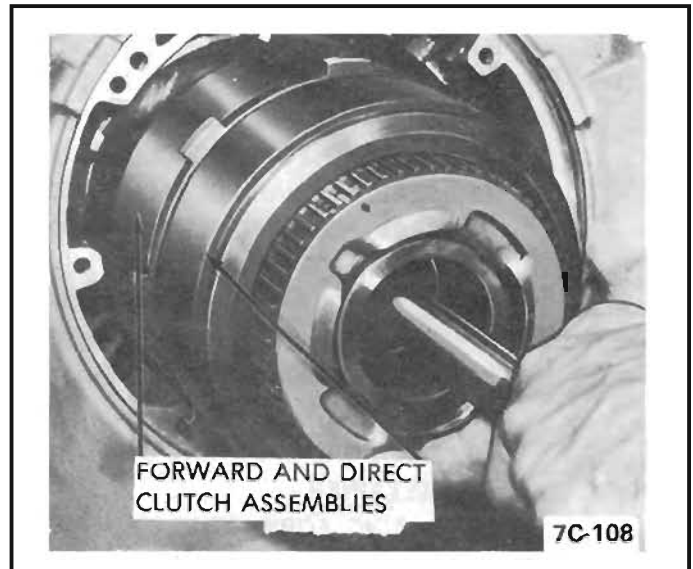

Figure 32 Forward and Direct Clutch Assembly Removal
1. Remove direct and forward clutch assemblies from case. See Figure 32.